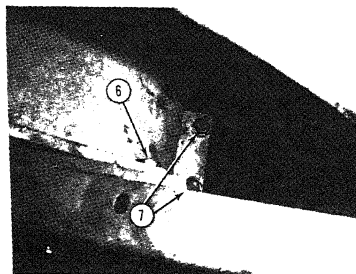

FIGURE 23
5. Figure 23. Remove two cap screws (6), one each side, holding isolator cover half to roller frame. Remove four cap screws (7), two each side, holding the upper and lower cover halves together, then remove upper cover half.
16. Follow step 5 and reference figure 23.